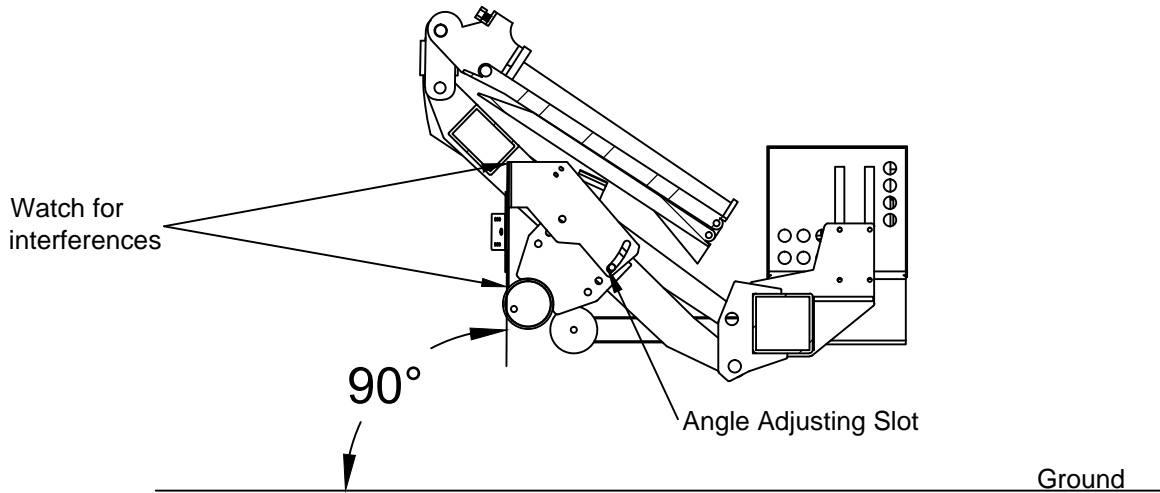

Figure 6: Bracket angle adjustment.
- 2. Adjust** the angle adjusting slot in order to have a 90° angle between the license plate and the ground. Do not tighten completely at this time (Figure 6).